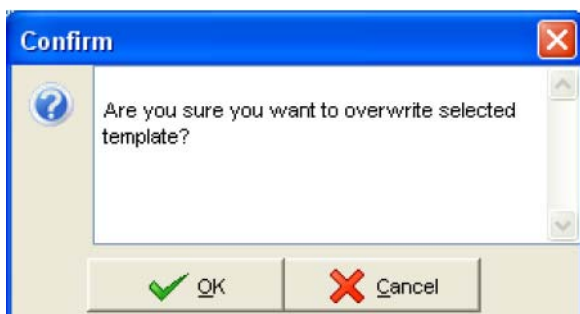

Figure 4.19 Confirmation box
- ⇒ A confirmation box appears (Figure 4.19).